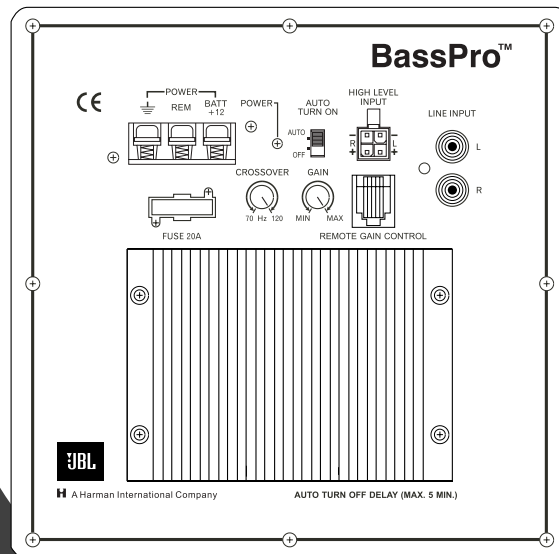

Figure 10.
BassPro has controls and indicators that help simplify sonic integration with almost any vehicle's unique acoustic properties. These controls are located on the amplifier panel, as shown in **Figure 10**.
2. On BassPro's amplifier panel, set the CROSSOVER to its maximum frequency of 120Hz, as shown in **Figure 10**.